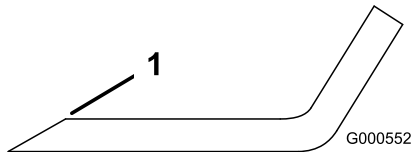
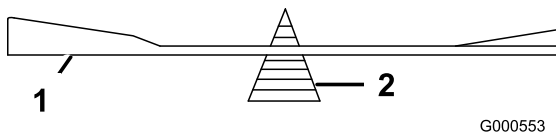

Figure 49
Figure 50
- Use a file to sharpen the cutting edge at both ends of the blade (Figure 49). Maintain the original angle. The blade retains its balance if the same amount of material is removed from both cutting edges.
- Check the balance of the blade by putting it on a blade balancer (Figure 50). If the blade stays in a horizontal position, the blade is balanced and can be used. If the blade is not balanced, file some metal off the end of the sail area only (Figure 49). Repeat this procedure until the blade is balanced.